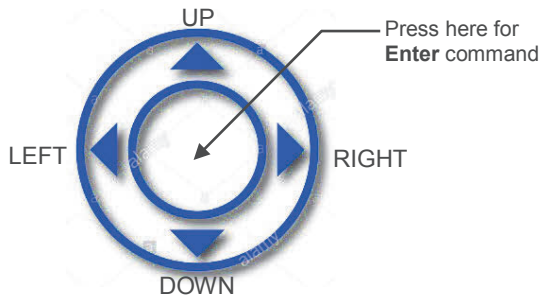

FIGURE 7: JOYSTICK
6.3 Meter Process Information (PI) screens
Based on meter configuration, different parameters may be displayed in the Process Information (PI) screen by moving the control joystick (see **Figure 7**) **Up** or **Down (DN)**. Process Information screens can be configured to be static or dynamic (see **Section 6.4.13.2** “Display and Process Information (PI) Screens”). Using PI Screen Mask settings, the user can enable (unmask) or disable (mask) up to 6 different process information combinations.